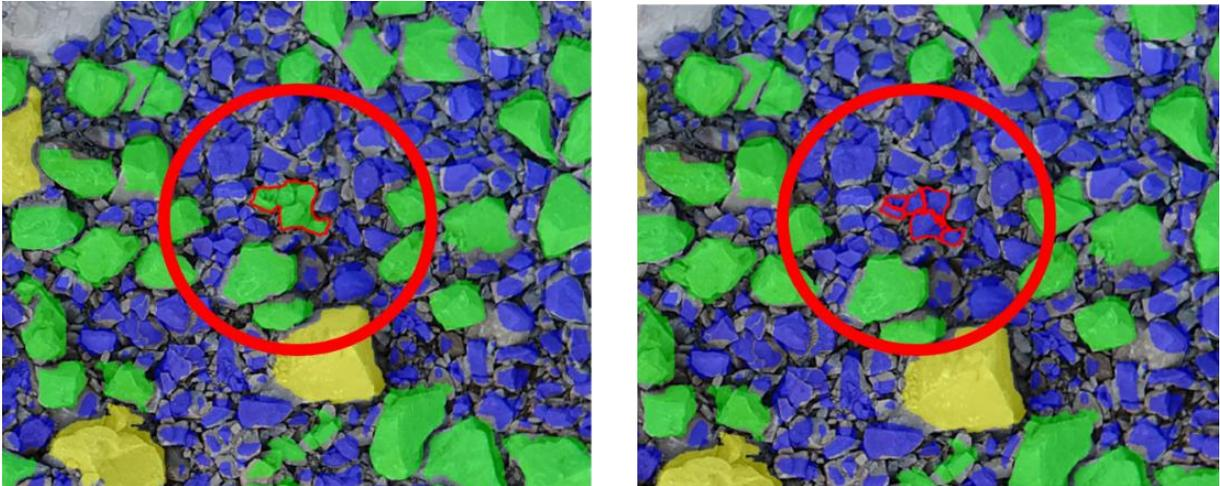

Figure 17: Automatically splitting a fragment. In this example the original fragment is spit into six fragments with the automatic mode
2. “Split Fragment Automatically” automatically splits a fragment into several fragments. Activate the corresponding icon  in the toolbar and click somewhere within the fragment to split (Figure 17). “Split Fragment Automatically” considers the properties of the texture in the fragment’s texture patch and is applied subsequently to achieve splitting into smaller fragments.